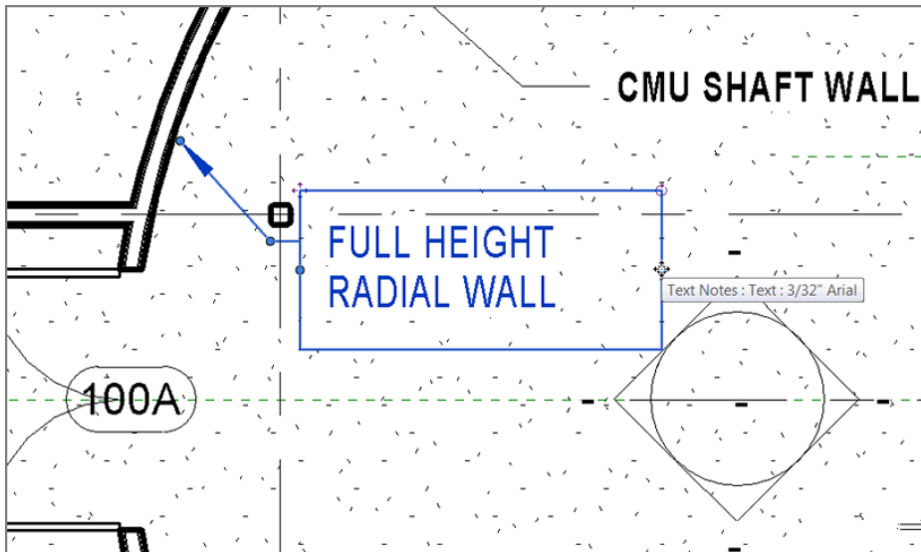

FIGURE 5.53: Configuring the arrowhead
That’s a handsome-looking arrowhead, as shown in Figure 5.53. The next item to address is how to modify the placement of text after you add it to the model.
3. Stretch the text window to the left until it forces the text to wrap, as shown in Figure 5.53.